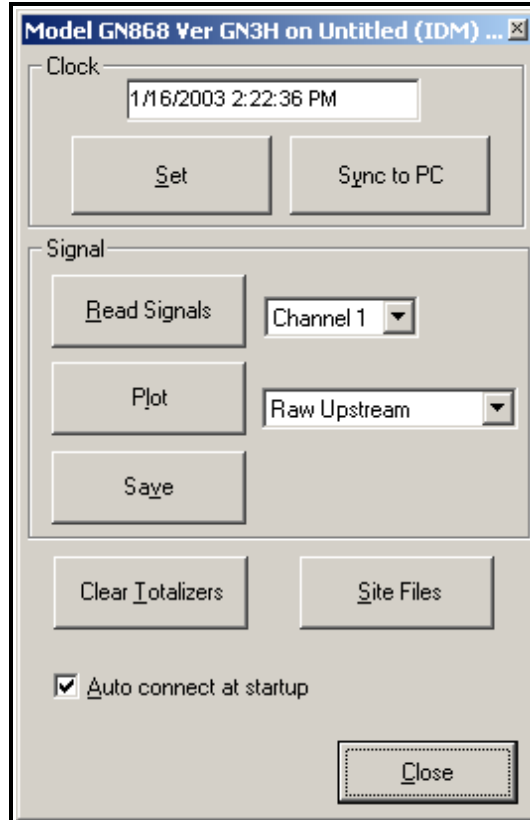

Figure 28: Active Signal Options
1. Click on the *Read Signals* button. (If the meter is a multi-channel instrument, open the Channel drop-down menu and click on the desired channel.) After a moment, the *Properties* window appears similar to Figure 28.